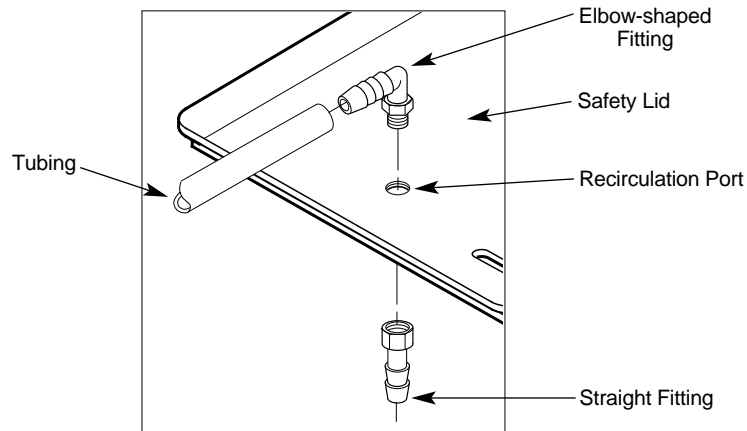

Figure 2.2. Connecting the recirculation ports and tubing.
2. Turn clockwise and tighten the elbow-shaped recirculation port fitting into the threaded port holes (Figure 2.2).